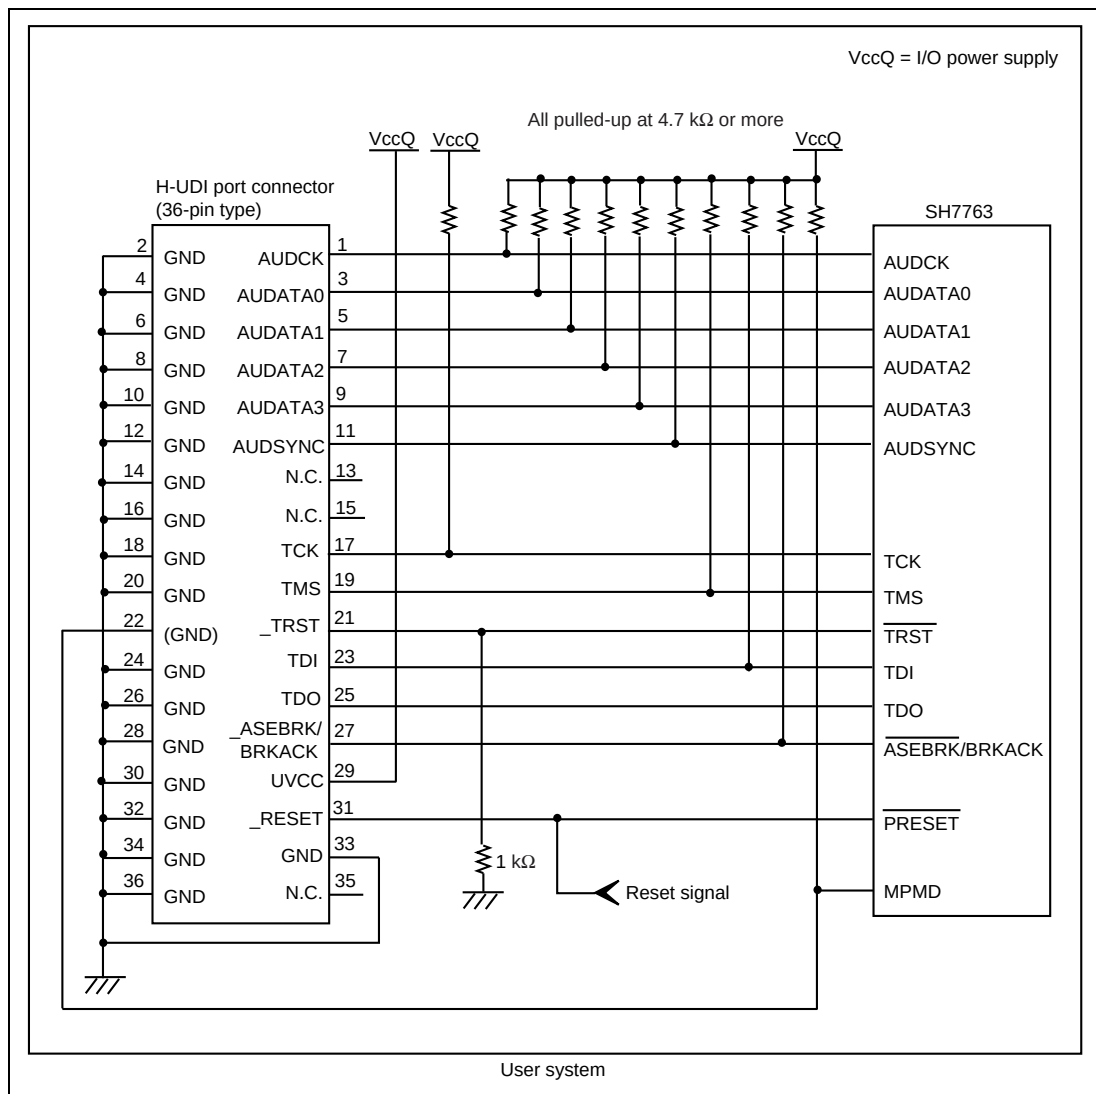

Figure 1.3 Recommended Circuit for Connection between the H-UDI Port Connector and MPU when the Emulator is in Use (36-Pin Type)
Figure 1.3 shows a recommended circuit for connection between the H-UDI and AUD port connectors (36 pins) and the MPU when the emulator is in use.
- (1) When the emulator is used: MPMD = 0
- (2) When the emulator is not used: MPMD = 1Figure 1.3 shows an example of circuits that allow the MPMD pin to be GND (0) whenever the emulator is connected by using the user system interface cable. When the MPMD pin is changed by switches, etc., ground pin 22. Do not connect this pin to the MPMD pin.
7. The resistance values shown in figure 1.3 are preliminary.
When the circuit is connected as shown in figure 1.3, the switches of the emulator are set as SW2 = 1 and SW3 = 1. For details, refer to section 3.8, Setting the DIP Switches, in the SuperH™ Family E10A-USB Emulator User's Manual.